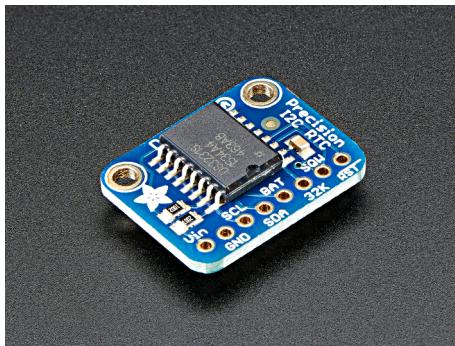

Figure 37: The DS 3231 hardware clock from Adafruit. Photo taken from www.adafruit.com.
- A DS 3231 precision hardware clock from Adafruit; this is a battery powered clock featuring temperature compensation. Fig. 37 shows this component which is about 15 €. A CR1210 battery is also needed.